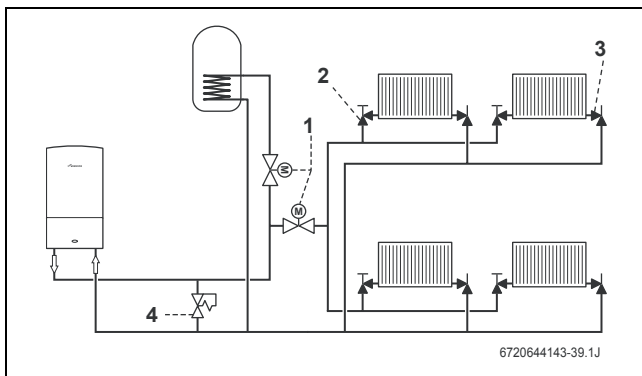
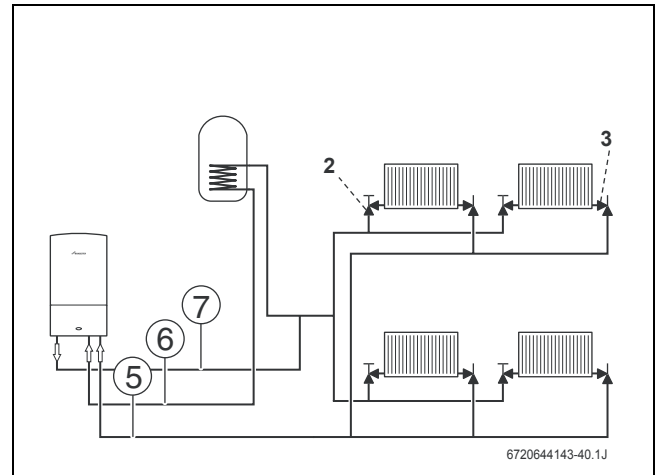

Fig. 8 S plan layout
Fig. 10 System layout with optional internal diverter valve (not supplied with boiler)
**Legend to Fig. 8 to Fig. 10:**